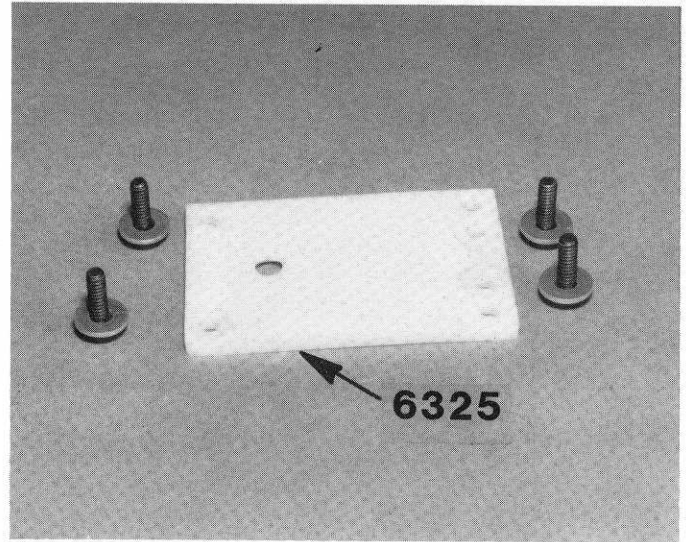

Fig. 82
□ **Figs. 82 & 83** From Bag 7-4, take the #6325 transmission brace and install it on the transmission and rear bulkhead, as shown. Leave the 4-40 x 5/16" SHCS screws fairly loose with the #4 flat washers.